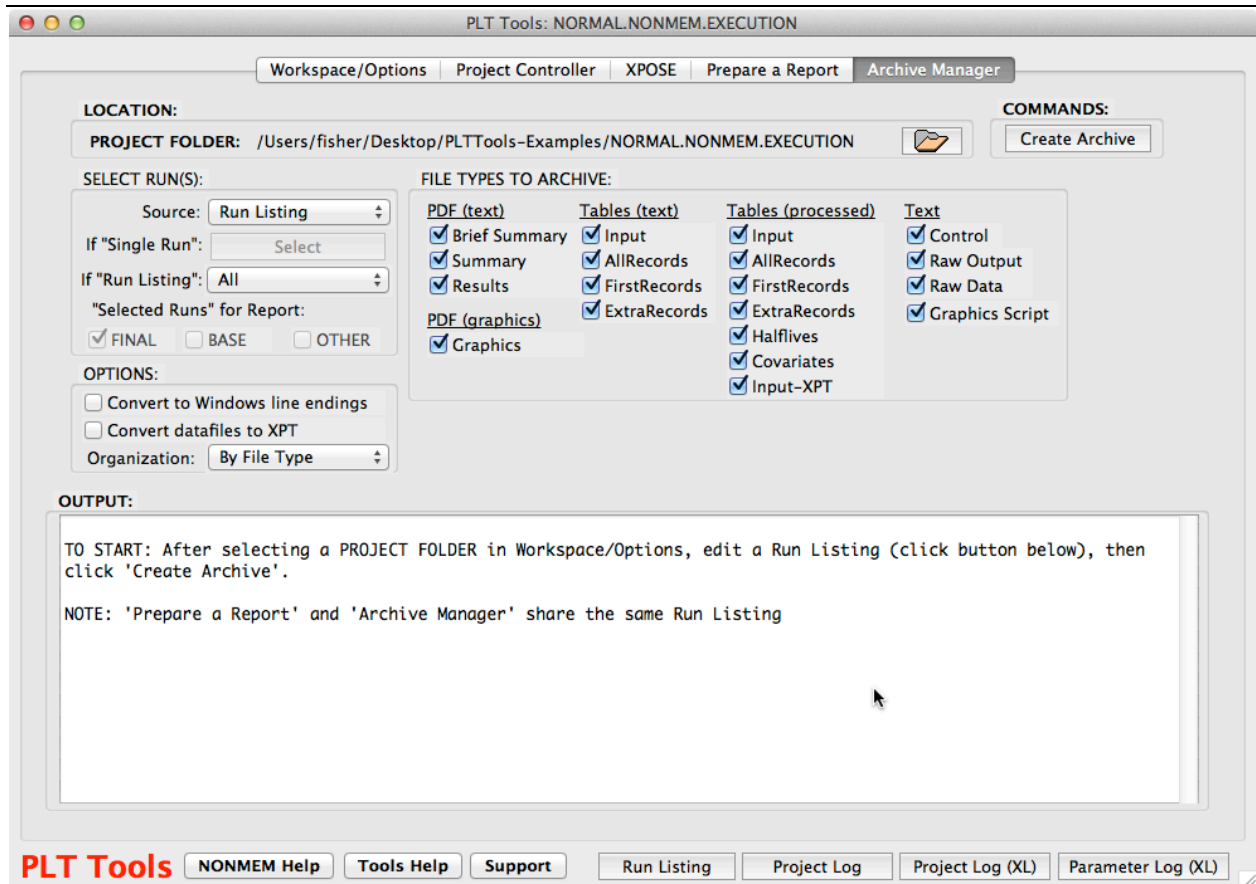

Figure 33. The lower border of **PLT Tools** contains two buttons to assist the user with **PLT Tools**.
2. Click the **Support** button on the lower border of the graphical interface. A message box will appear (**Figure 33**). After the user clicks OK, an email, addressed to support@PLTsoft.com will appear and a folder containing certain files useful for debugging will open. Describe the exact problem and, if it relates to a particular NONMEM run, include (if possible) the Control Stream and the data. If the problem relates to graphics, also include the Graphics Script. Finally, the folder, `DEBUGGING.FOLDER` (which can be accessed from the menus: